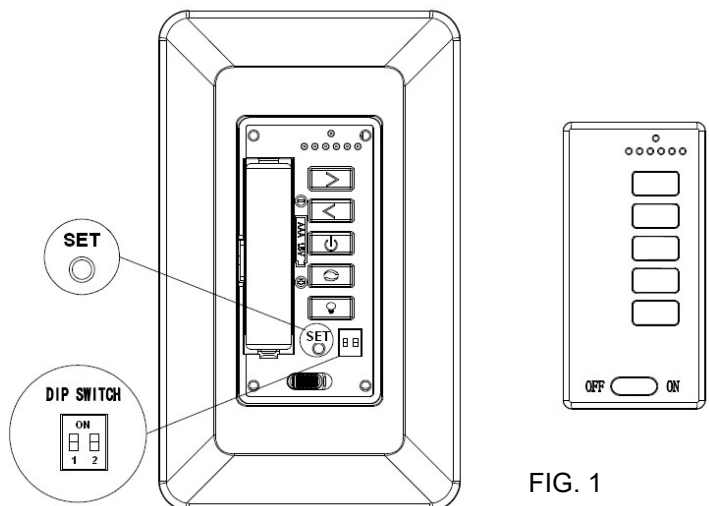

FIG. 1
3. If user cannot finish the setting within the 30 seconds time frame, the main power must be turned off and re-started again. This will reset the unit. Repeat step 1 until the LEARNING feature is activated as indicated. (Fig. 1)